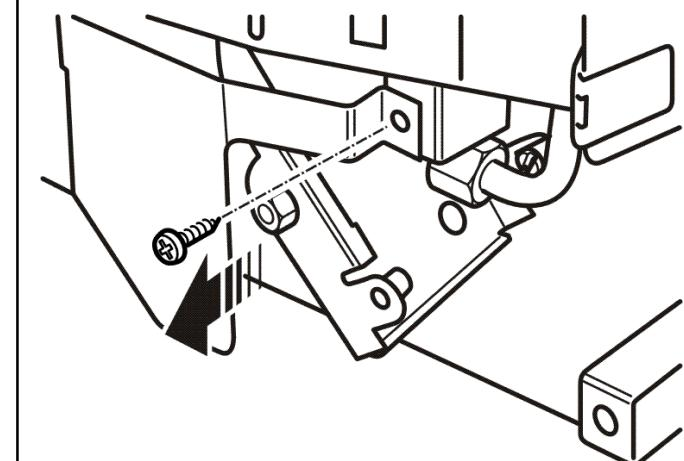

Figure 34. Microswitch cover removal
(See figures 34 & 35).
2. Detach the microswitch cover by removing one screw and pulling clear of the location lug (See figure 34).
(See figures 34, 35 & 36).